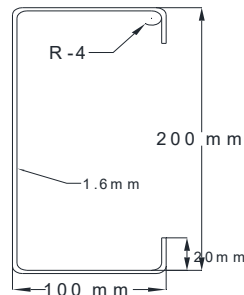

Figure-1
1. The built up two stiffened channel section of dimension shown in figure-1 are used as a simply supported beam to span about 6m long. Determine the deflection in the beam in the beam when the udl causes the max allowable moment at the mid span section. The maximum allowable moment is 512 kg-m.